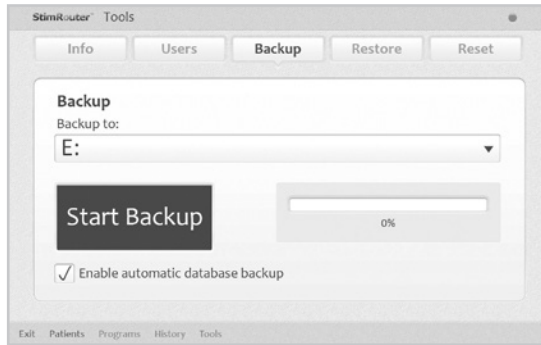

Figure 11-5: Backing up the Clinician’s Programmer database
1. Press “Tools” on the Menu Bar, press the Backup Tab, and then check “Enable automatic database backup”. The Clinician’s Programmer database will back up once daily and each time the software is exited. See Figure 11-5.
2. From the “Back up to” drop-down list, select SD Card drive, and then press the “Start Backup” button. See Figure 11-5.